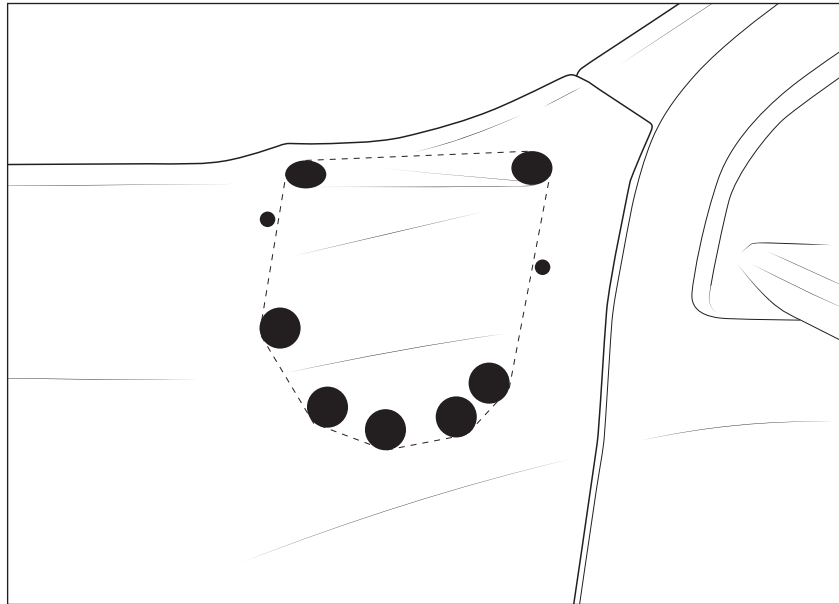

Figure 4
8. Use painters tape to layout tangent lines between the larger holes (fig. 4).